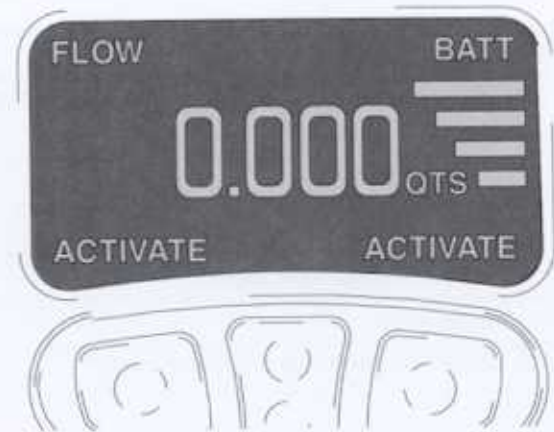

FIG. 1
2. When the battery is first inserted the display shown in FIG. 1 will appear.